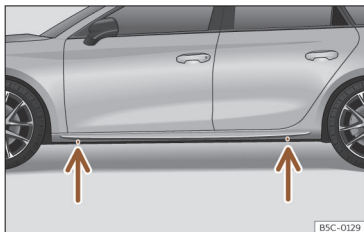

Fig. 43 Jack position points.
- Find the support point on the strut (sunken area) closest to the wheel to be changed >>> Fig. 43.